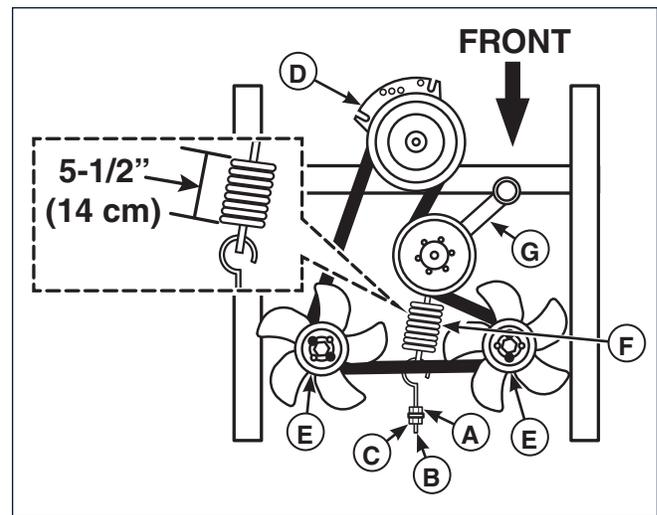

Figure 40. Hydraulic Drive Belt Replacement
4. Loosen the jam nut (**A**, **Figure 40**) on the spring anchor eyebolt (**B**).